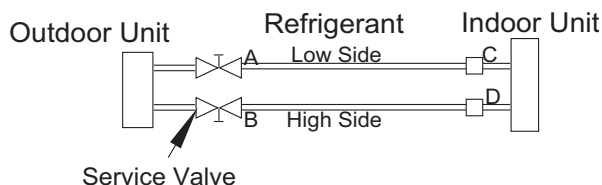

Fig. 12 – Service Valve
1. Completely tighten all flare nuts and connect manifold gage charge hose to a charge port of the low side service valve (see Fig. 12).